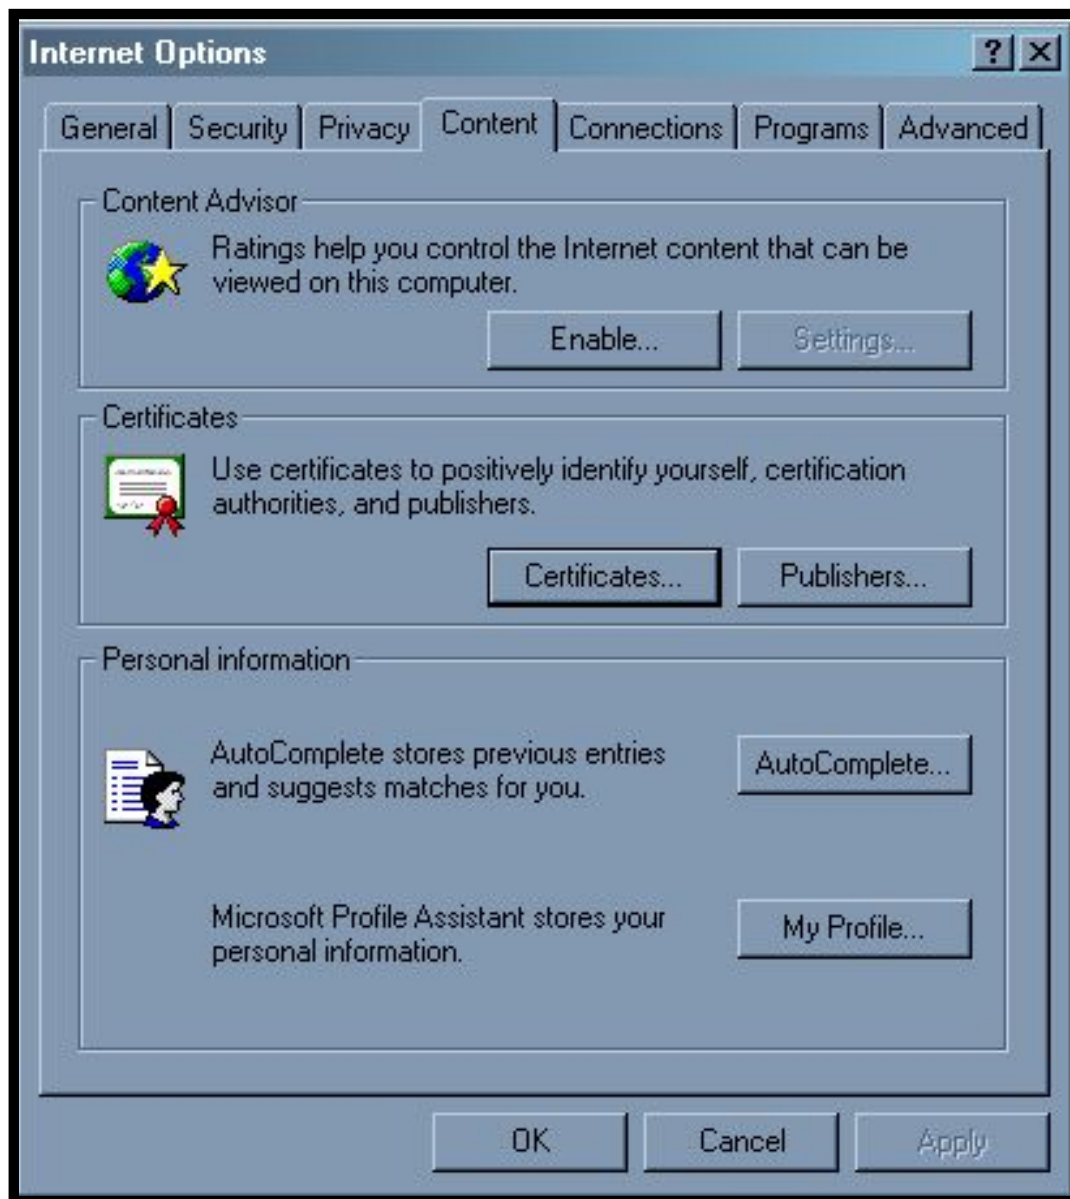

Figure 4.1-2: Select 'Contents' Tab
2. Click on the 'Contents' tab, and click on the *Certificates...* button in the Certificates portion of the window. See Figure 4.1-2 below.